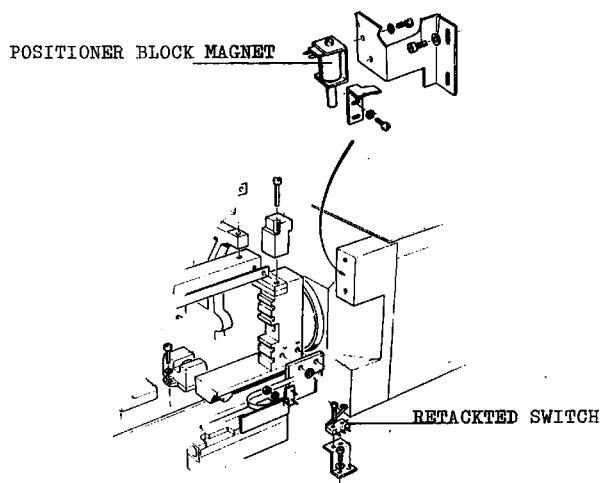

Fig 7-31 POSITIONER
5.7 RETRACTED SWITCH (fig 7-31)
5.8 POSITIONER BLOCK MAGNET (fig 7-31)